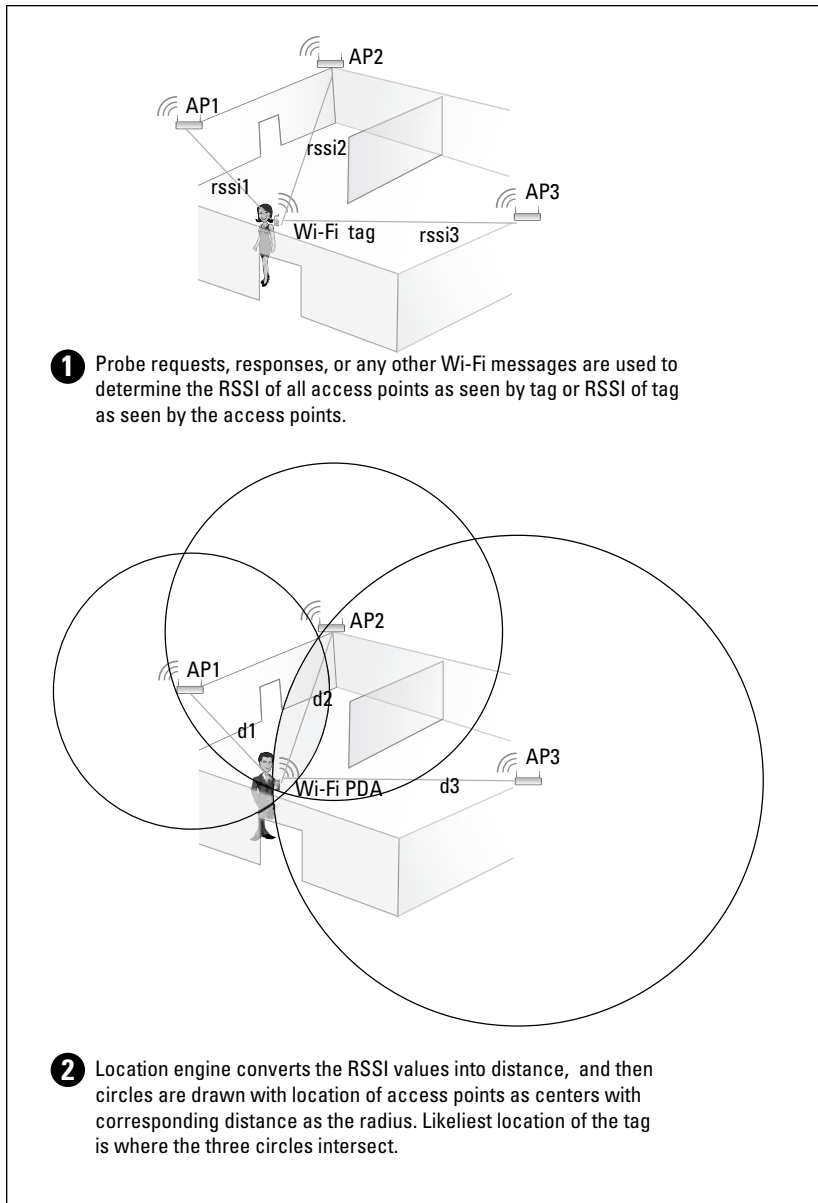

Figure 11-4:
- ✓ **Trilateration:** In this method, the location engine uses trilateration (I discuss this in Chapter 2) to determine the most likely location of a Wi-Fi tag. The basic methodology is that if the distance d from various access points to the Wi-Fi tag can be measured, a circle with radius d can be drawn with the center at each access point. The most likely location of the device is where all these circles intersect (see Figure 11-4).